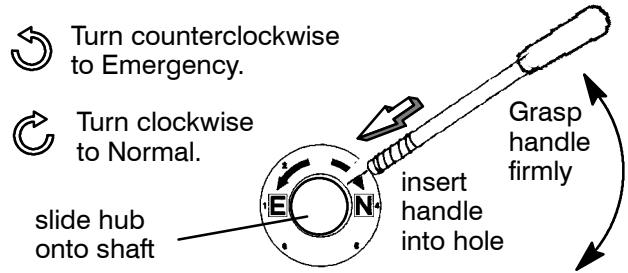

Figure 1-3. Maintenance handle.
1. After deenergizing both power sources, open the enclosure door. Locate and remove the maintenance handle and hub stored on the transfer switch frame. Then install the hub onto the center operator shaft and insert the handle firmly into the hole in the side of the hub (spring fully compressed). See Figure 1-3 and 1-4 and Table B.